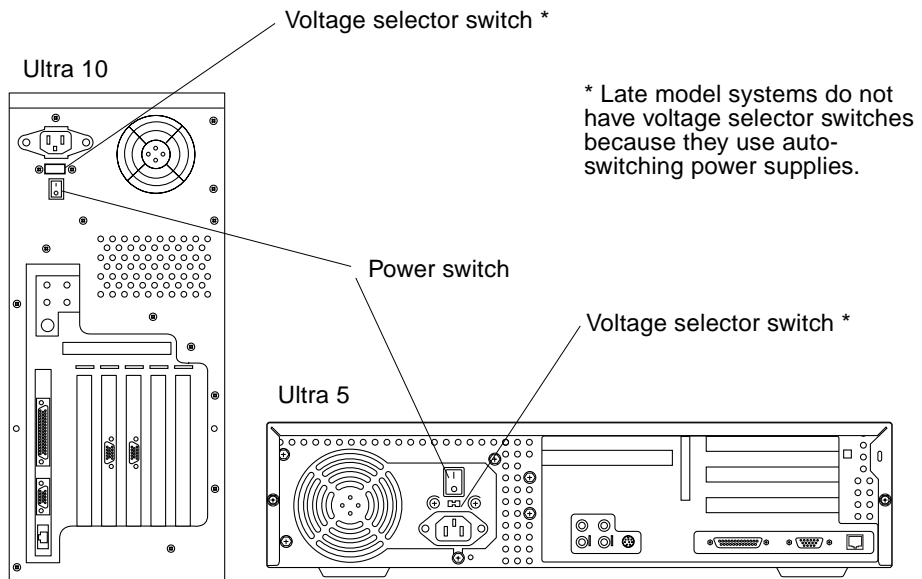

FIGURE 4 Power Switch and Voltage Selector Switch
3. **Set the power switch to the off position (FIGURE 4).**